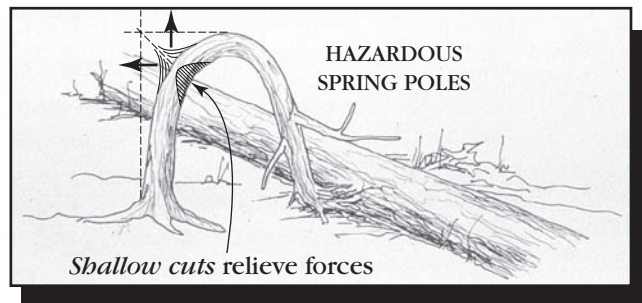

Figure 5-16— Look for spring poles. They can release and cause accidents.
**Spring Poles**—Spring poles are generally small-diameter trees or brush that are pinned under larger trees (figure 5-16). Because the trees or brush are still rooted, when they become pinned, they are under tension. If this tension is undetected, when the spring poles are cut, they can spring back with tremendous force and strike the sawyer. Cut a spring pole only when necessary.